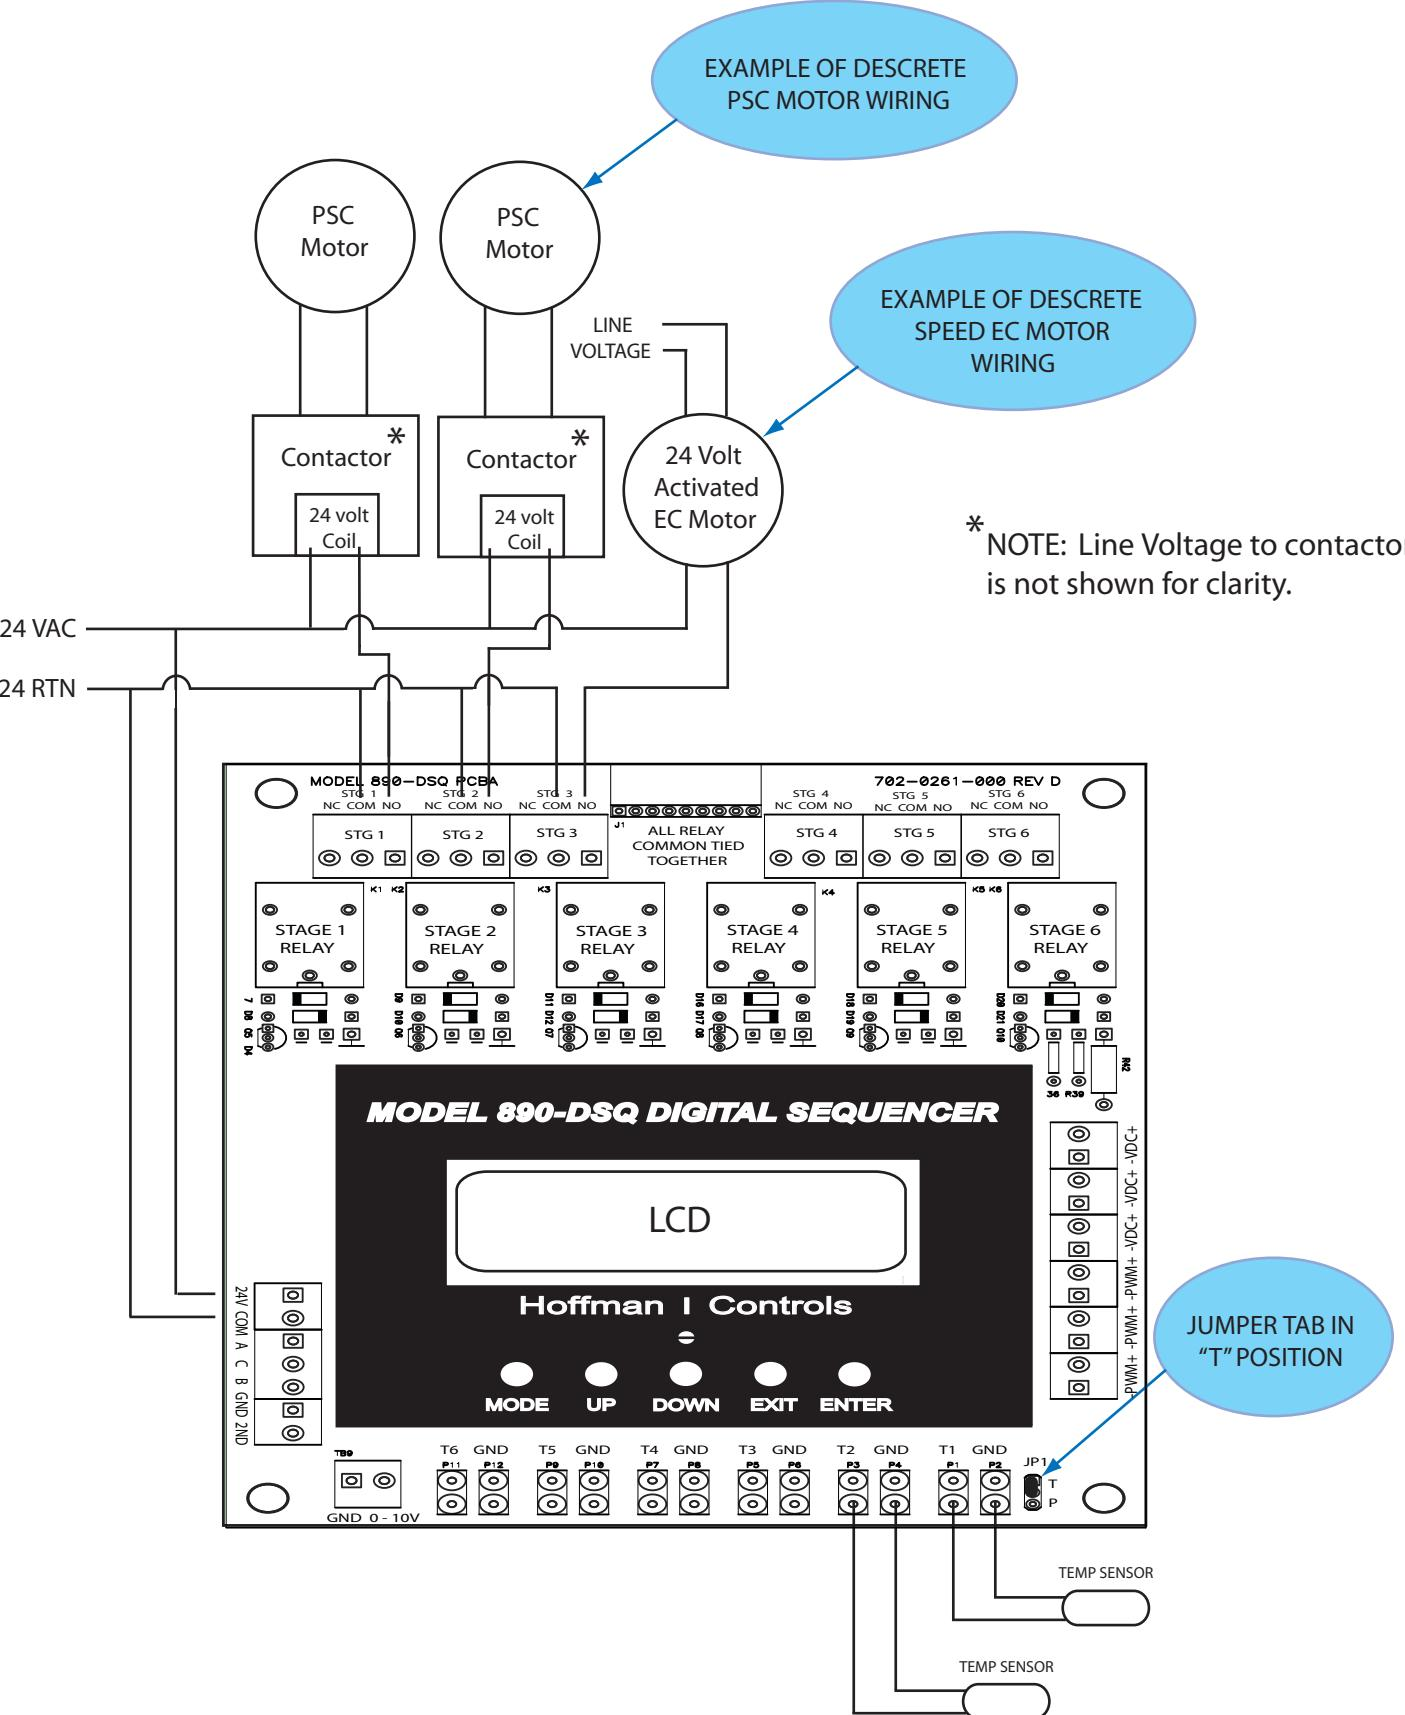
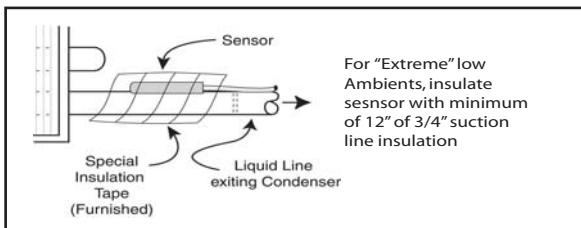

Figure 5
Figure 6
The 890-DSQ Series Sequencers may be installed using a range of inputs, staged relay outputs, and continuously variable speed EC motors or SCR outputs. Refer to **Figures 5 thru 8**, (pages 12 thru 15), for the appropriate wiring diagram(s) for this application. More than one wiring diagram's information may be required when installing the 1) Modbus connection, 2) secondary set point contact closure, 3) 0 - 10 VDC input or 4) VS (variable stage) EC motors or SCRs.
- 4) Refer to **Figure 5, 890-DSQ Wiring Diagram 1**, (on page 12) for applications using staged relay outputs with temperature sensor inputs. Also see **Figure 6, Liquid Line Temperature Sensor Mounting** (on page 13) for liquid line temperature sensor mounting.